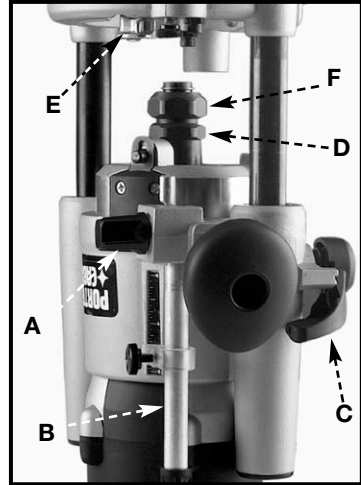

Fig. 10
1. Reach under table and pull down and rotate the spindle lock actuator (E), Fig. 10 into place.
2. Loosen the depth rod locking knob (A) Fig. 10 and ensure the depth rod (B) Fig. 10 is pushed down all the way. Tighten knob.
3. Pull up on plunge locking lever (C) Fig. 10, grab handles and pull base up as far as it can go. Push lever down to lock.
4. Push the spindle lock actuator (E) Fig. 10 while turning the chuck (D) Fig. 5 to engage spindle lock.
7. Place the wrench on the collet nut (F) Fig. 10 and turn CLOCKWISE to tighten. Tighten firmly.